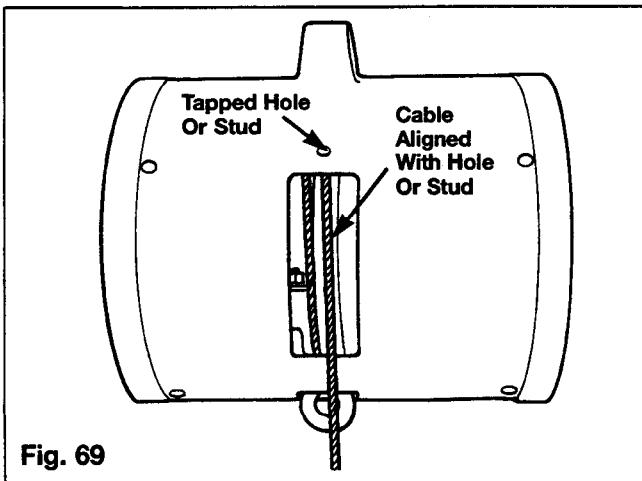

Fig. 69
- time, as described in step 2. The wire rope should be centered in the opening of the housing. Refer to Figure 69.